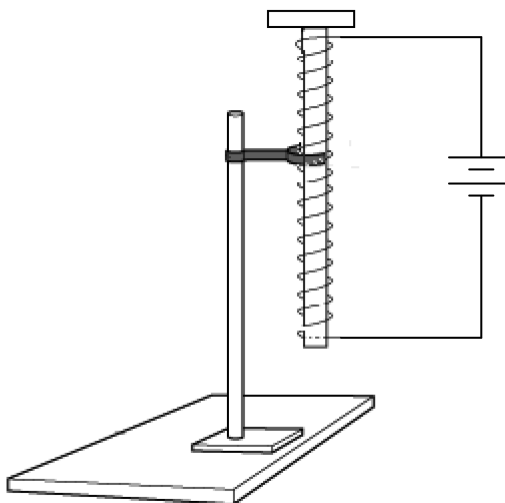

Fig. 2.1
- Connect a circuit using the 30 turns on the nail as shown in **Fig. 2.1**.